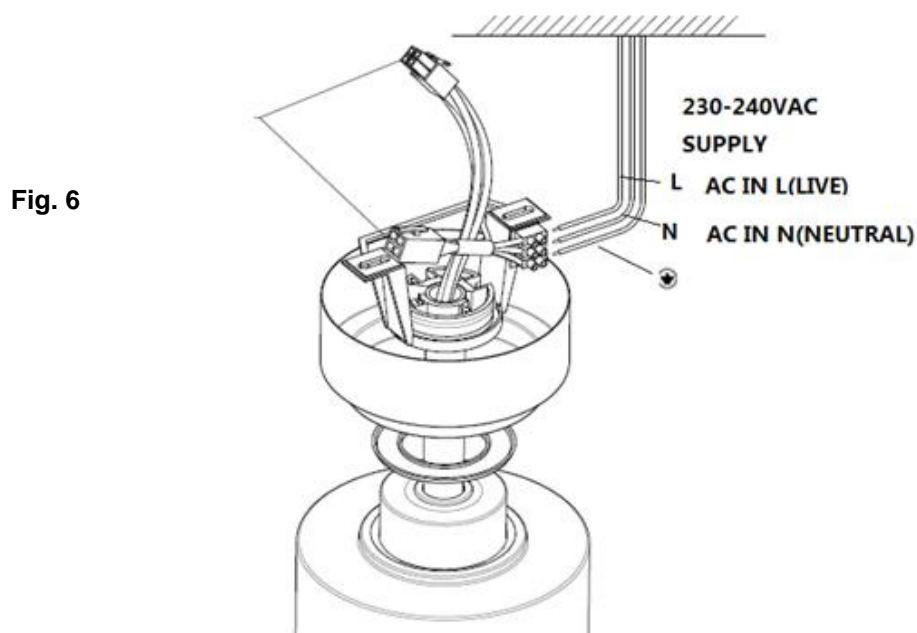

Fig. 6
- Complete the electrical wiring using the diagram below (Figure. 6).
PREPARE AND COMPLETE THE ELECTRICAL WIRING --- WIRING DIAGRAM (FIG. 6)